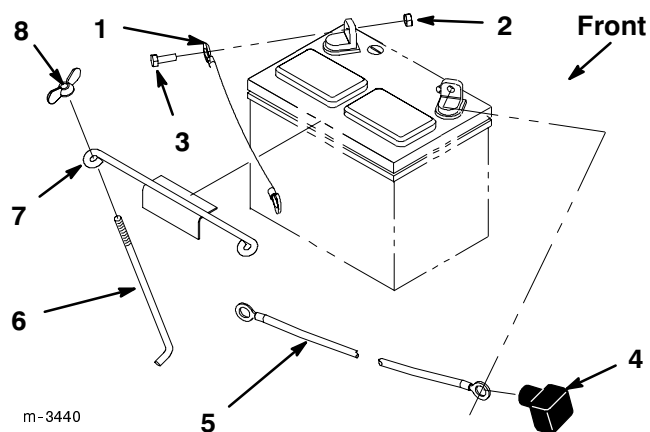

Figure 37
3. Disconnect the negative (black) ground cable from the battery post (Fig. 37).
4. Lift the red rubber cover up on the positive cable. Disconnect the positive cable (red cover) from the battery post (Fig. 37).
5. Remove the battery hold down rods (Fig. 37). Lift battery from tractor
6. Install the battery into the chassis (Fig. 37).
7. Secure battery in chassis with hold down rods and wing nuts (Fig. 37).
8. Using the bolt and locknut, connect the positive (red cover) cable to the positive (+) battery post (Fig. 37). Slide the rubber cover over the battery post.
9. Using the bolt and locknut, connect the negative (black) cable to the negative (-) battery post (Fig. 37).